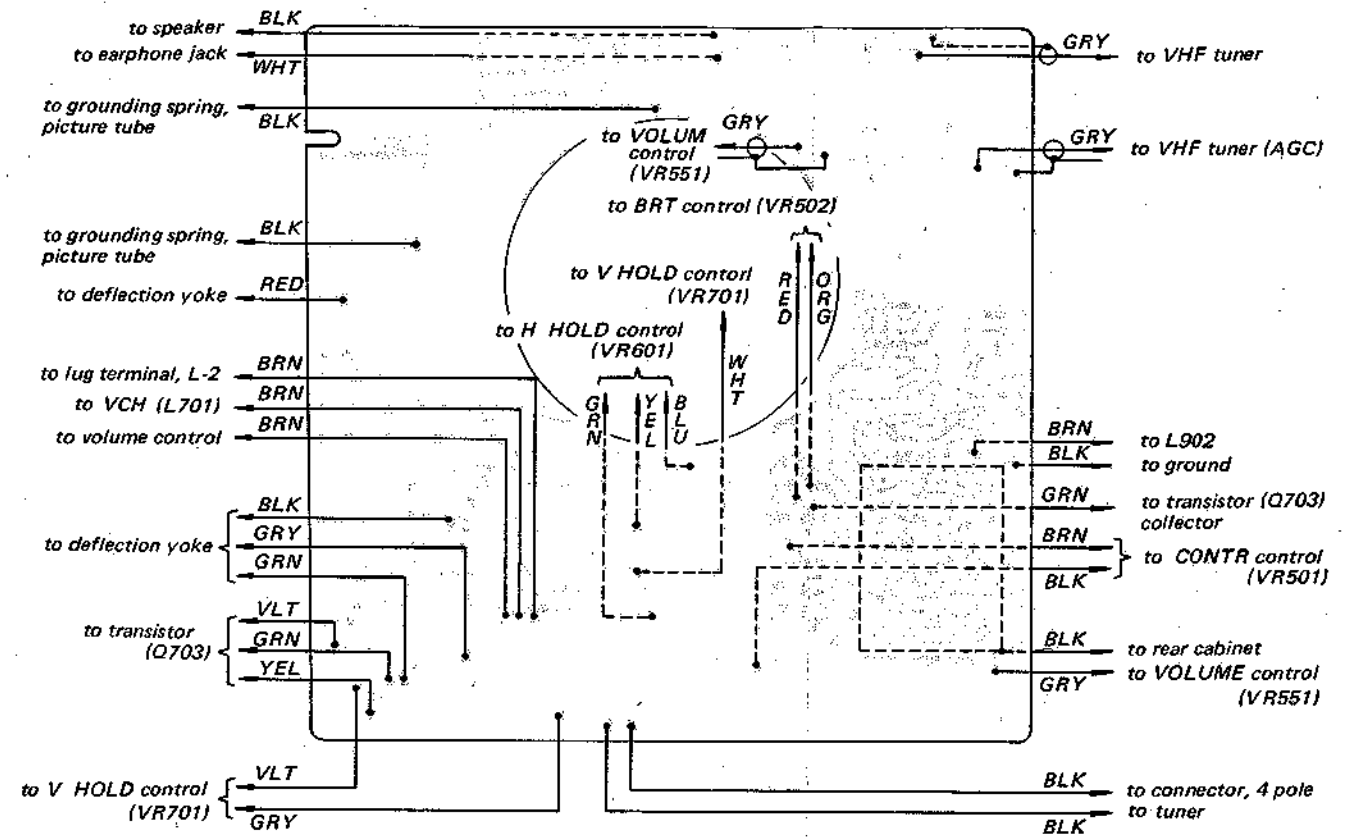

Fig. 2-8.
6. Unsolder the all lead wires and coaxial cables as shown in Fig. 2-8 on page 8.